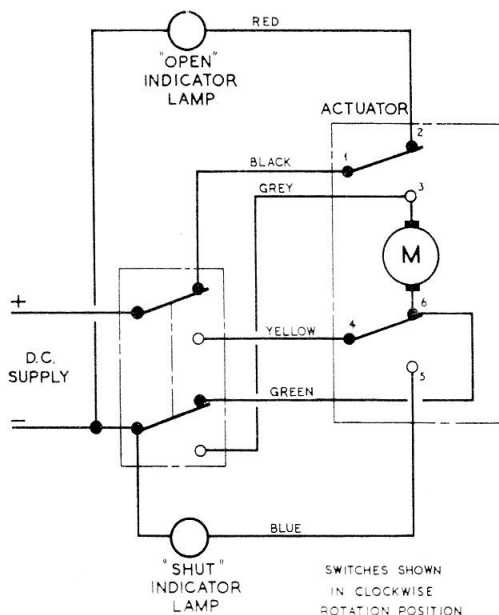

Fig. 2. Circuit diagram
2. Electrical connection is made to the actuator by a 1 ft. long lead of petrol resisting cable with a socket (Ref. No. 5X/6039) at the end. The theoretical circuit diagram (fig. 2) illustrates the method of connecting the actuator to the electrical supply and other components, but reference should be made to the relevant Aircraft Handbook for information on installation of the actuator.
3. The limit switch is generally the same as for most of this series of actuators. The two terminals 2 and 5 (fig. 2) are used to connect two indicator lamps in the circuit. The lamps indicate the open and shut